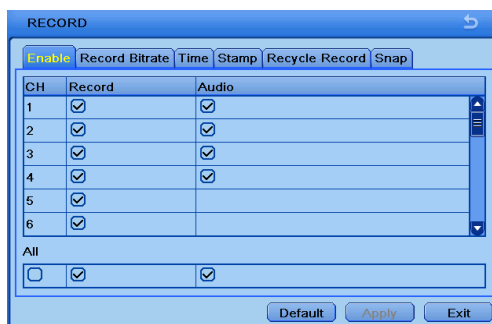

Fig 4-11 Record Configuration-Enable
- ① Go to Main Menu→Setup→Record→Enable interface. Refer to Fig 4-11.